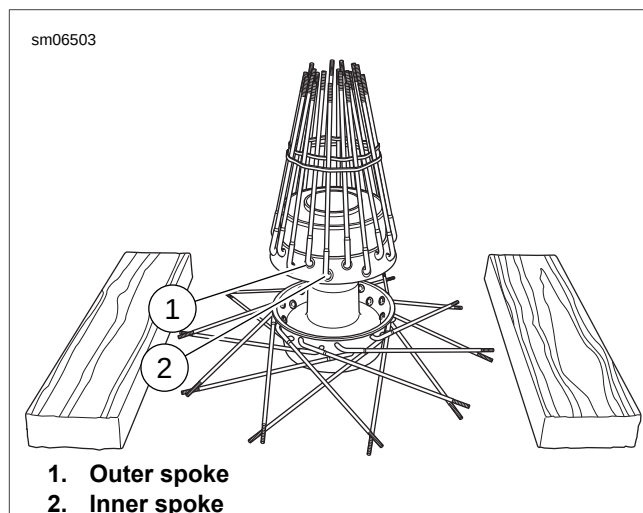

Figure 2-13. Spokes Gathered
3. See Figure 2-13. Flip hub over. Gather all outer spokes and hold upright with a rubber band. Repeat with the inner spokes using a second rubber band.